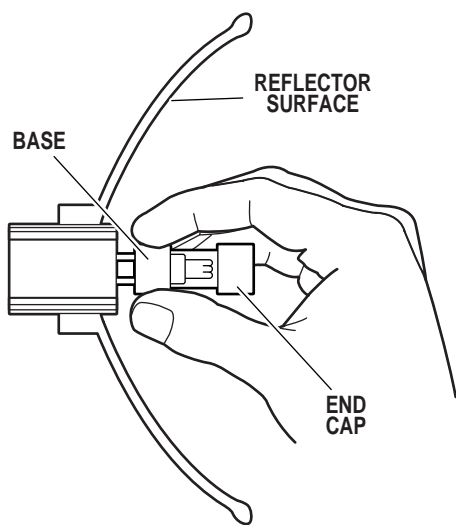

Figure 20.
2. Using caution not to touch the reflector surface, hold the bulb by the base and pull it out. See figure 20. Slightly working the bulb back and forth may aid in bulb removal.